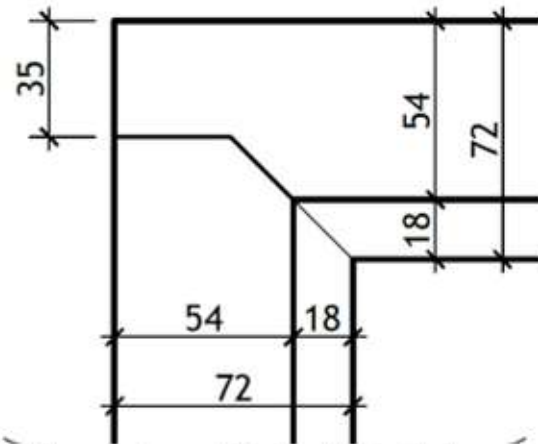

Figure 2. Frame joint detail for both doors.
- 1 pc of drop seal (L-14/35) a length of 1035 mm with 2mm intumescent fire protection kit, produced by Athmer see figure 2 and photo 2 – bottom of the door leaf.